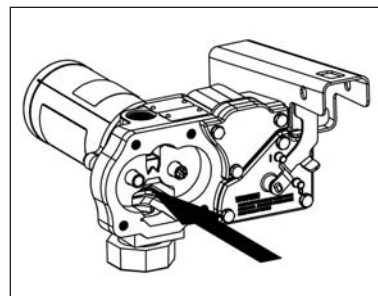

Figure 7
- b. Push down on the poppet until the poppet O-ring is exposed inside the housing. (Figure 7)